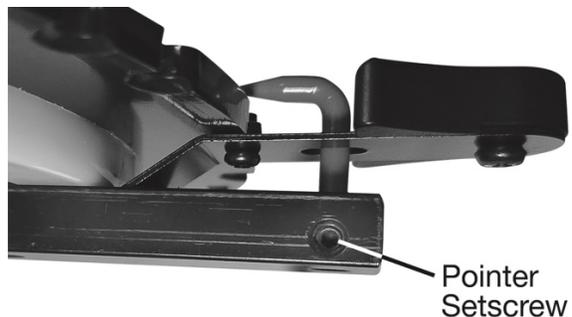

Figure 18B
- After squaring, if the red pointer (C) is not pointing at 0°, loosen the pointer setscrew (see Figure 18B), rotate the pointer to 0°, and retighten the pointer setscrew.